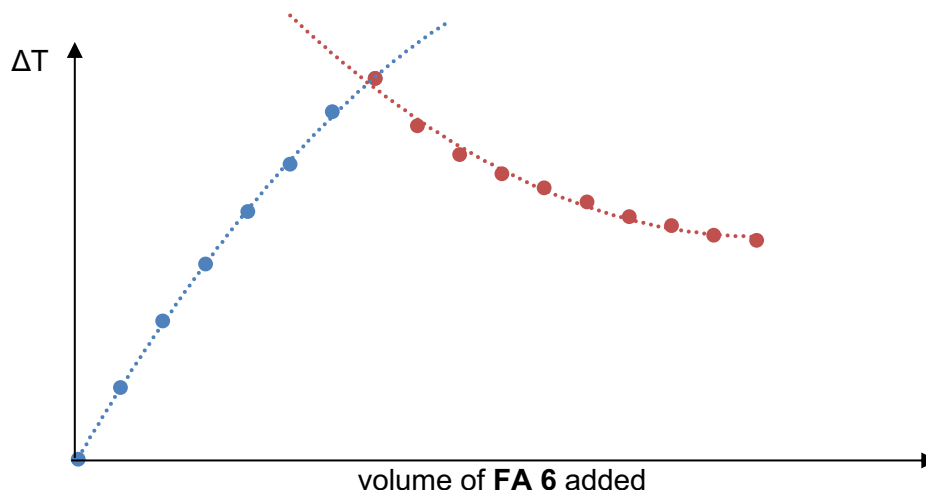

Fig. 2.1
- (e) Fig. 2.1 was obtained when ΔT was plotted against the volume of **FA 6** added.
Explain the shape of the graph in Fig. 2.1 before the equivalence point and after the equivalence point.